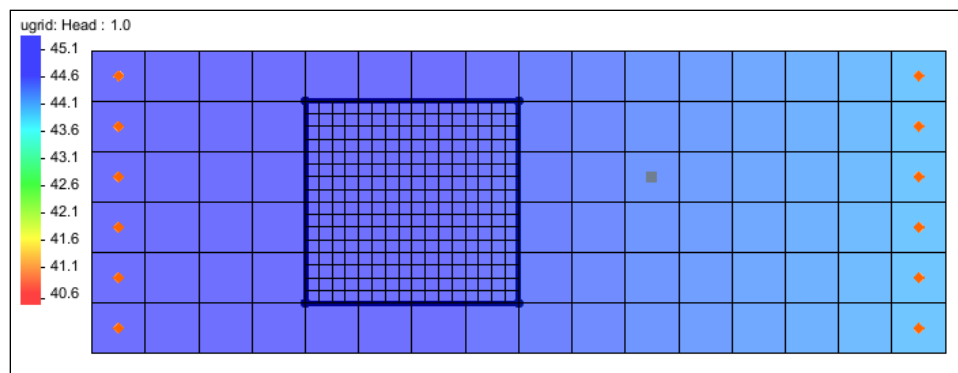

Figure 2 Arcs drawn around refined area of the UGrid
10. Using the **Create Arc** tool, create four arcs around the refined area of the UGrid as in Figure 2 below.